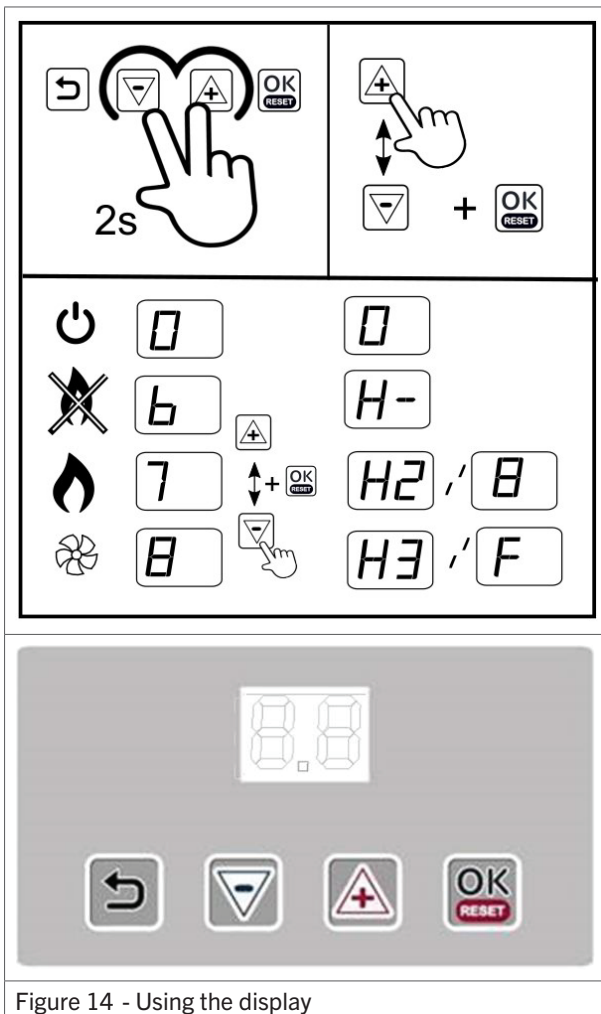

Figure 14 - Using the display
1. Press the (+) and (-) buttons (figure 14) simultaneously. The display shows a blinking 0.
1. Press the (+) and (-) buttons (figure 14) simultaneously.